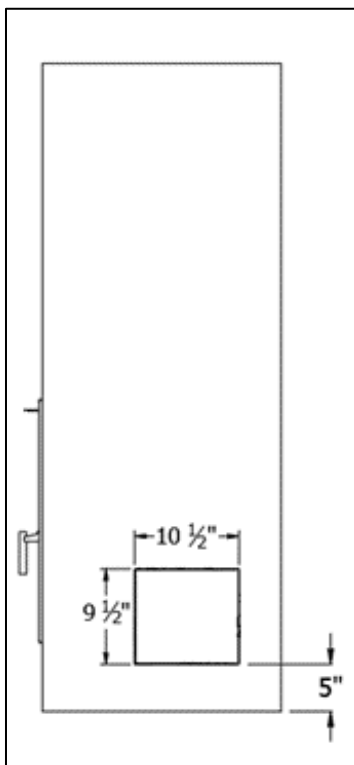

Figure 3-36 Opening for Air Intake
11. Determine the two locations of the air intakes on the chase and cut the rectangular openings of 10.5" (W) X 9.5" (H) (Figure 3-36).